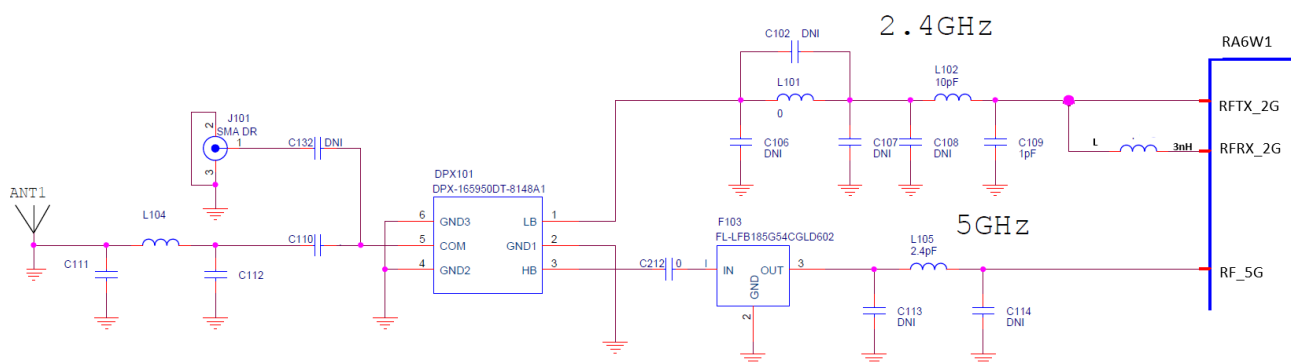

Figure 17. RFIO port and RF circuitry as applied on RA6W1 development board
2.4-GHz port consists of two pins, RFTX\_2G and RFRX\_2G which are combined through an LC circuit, where  $L=3\text{ nH}$  and  $C=1\text{ pF}$ , both 0201. LC circuit must be placed close to the chip. Figure 17 shows the RF output circuitry with an external diplexer to combine the 2.4-GHz and 5-GHz transmit/receive paths and a band pass filter (BPF) to ensure the rejection of out-of-band emissions on 5 GHz.